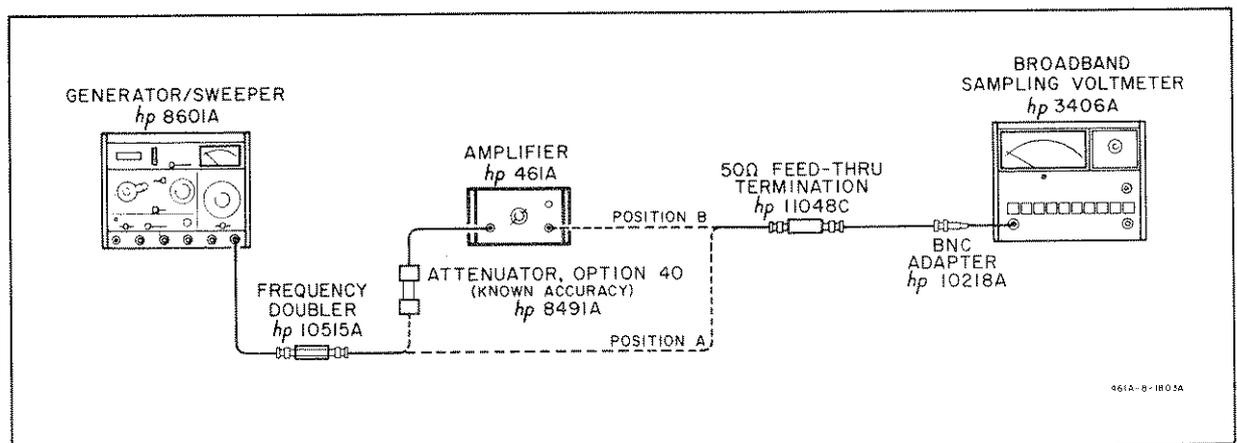
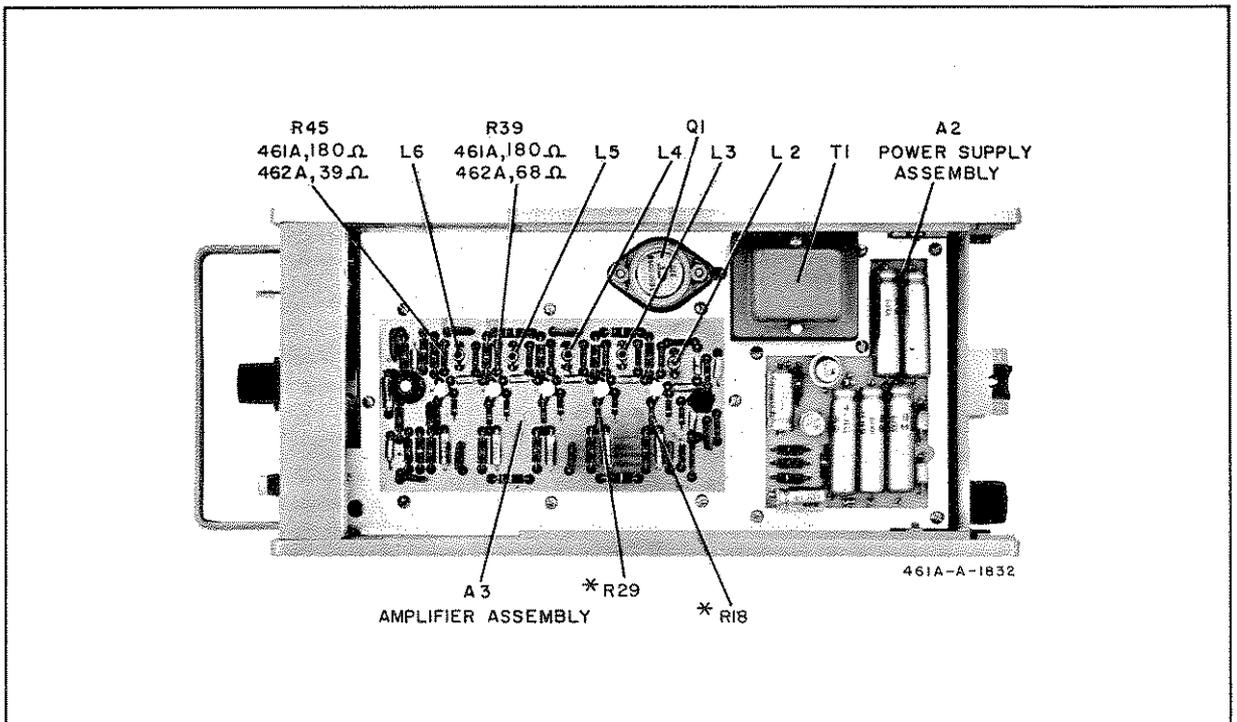

Figure 5-3. High Frequency Response Check
Figure 5-11. Top View
- a. Connect the 461A as in Figure 5-3, position B, using the 40 dB attenuator and turning the signal generator output to minimum.
- d. Connect the ac voltmeter as in Figure 5-3, position A. Record the voltmeter reading for an input reference level.
- j. Connect the circuit in Figure 5-3 using the 20 dB attenuator and placing the 461A in the 20 DB GAIN position. Repeat steps b through g. If the frequency response is not within ± 1 dB refer to Troubleshooting paragraph 5-31 and Table 5-2.
The test equipment in Figure 5-3 must be used for an accurate check and for a final adjustment for high frequency response. L2 through L6 should not have to be adjusted unless some component is changed in the feedback path. If the coils have to be adjusted, carefully peel away the cement, turn the coil with a plastic tuner and when the alignment is finished, cement the coils again with Duco cement. Refer to Figure 5-11 for location of coils.
- a. Connect the test setup as in Figure 5-3 and repeat paragraph 5-12, steps a through g.